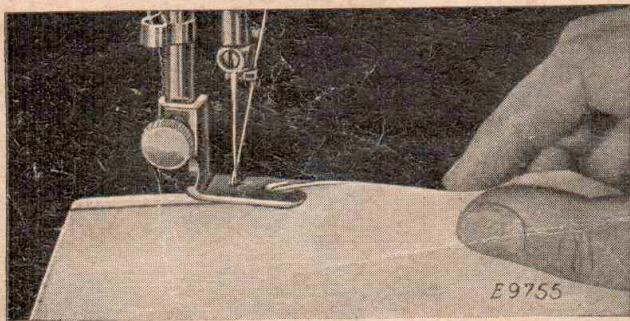

FIG. 29. STARTING A HEM AT THE EDGE
3. Draw the material toward you through the Hemmer, as shown in Fig. 29, at the same time making the second fold at the very edge. Continue to draw the material through the Hemmer until the edge is just under the needle. Place the upper and lower threads together under the Hemmer foot and assist in starting of the hem by slightly pulling the threads from the back as the machine is run.